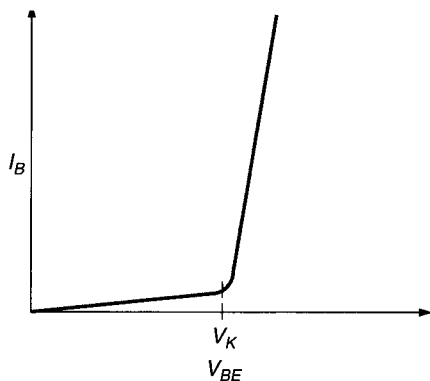

FIGURE 6.26 A base characteristic curve.
The **base curve** of a transistor plots  $I_B$  as a function of  $V_{BE}$ , as shown in Figure 6.26. Note that this curve closely resembles the forward operating curve of a typical *pn*-junction diode.
5. The base curve in Figure 6.26 indicates that the base-emitter junction of a transistor acts like what component? Explain your answer.